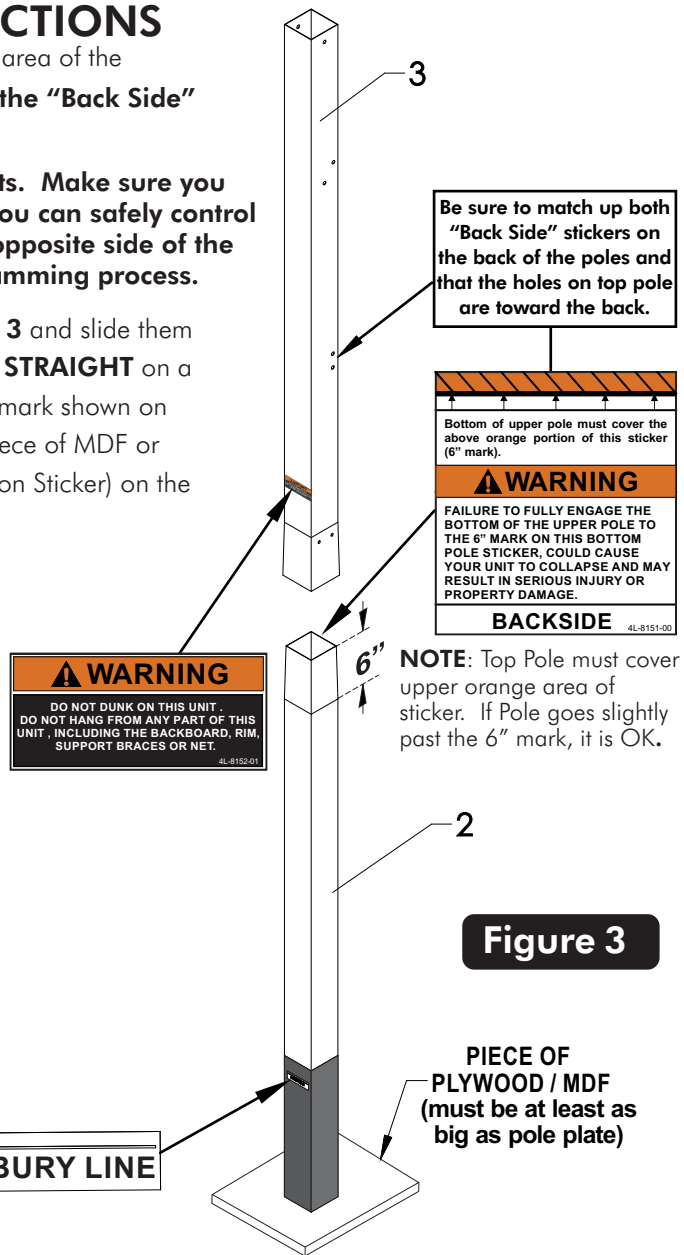

Figure 3
- Before putting any of the poles tubes together, make sure that the orange area of the Warning Sticker on Pole (#2) is 6 inches from the top end. **Be sure that the "Back Side" stickers are on the back of the pole.** See **Figure 3**.
- Align the upper pole (#3) with the bottom pole (#2) as shown in **Figure 3** and slide them together. While maintaining control of the pole assembly stand poles up **STRAIGHT** on a piece of MDF or plywood, **lift poles up by bottom pole** below the 6" mark shown on sticker and slam down the bottom pole as many times as needed on a piece of MDF or plywood **until the bottom of the upper pole reaches the 6" mark** (on Sticker) on the bottom pole. See **Figure 3**.